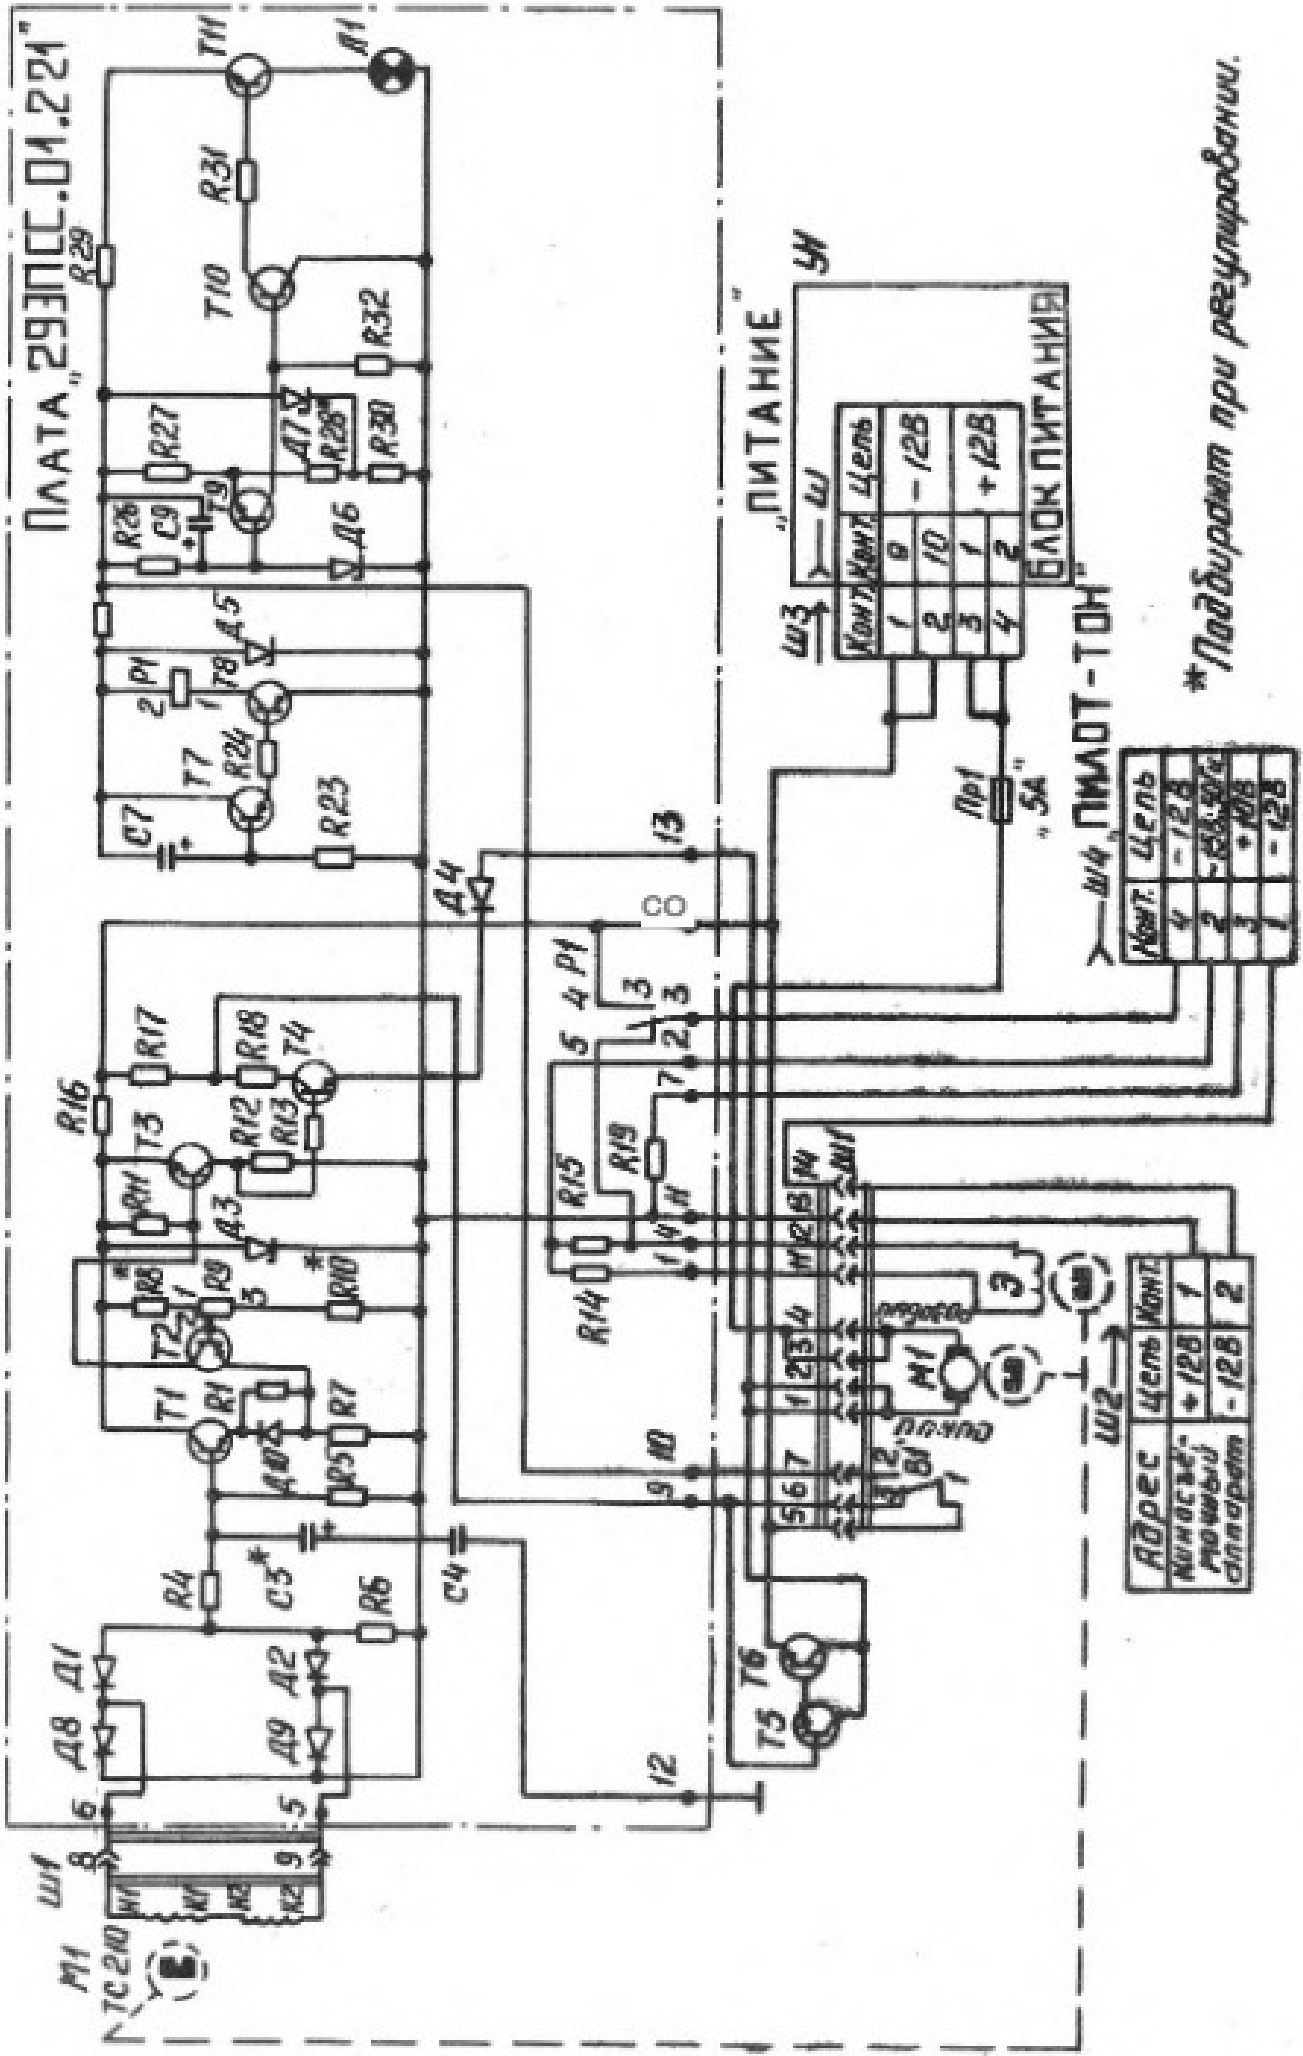

Рис. 4. Схема электрическая принципиальная
4. 5. The principle of operation of the electric drive can be considered according to the scheme shown in Fig. 4.
6. 2. If it is necessary to increase the distance between the camera and the power supply, instead of the power cable, connect the extension cable (Fig. 4), on which there is a trigger button for remote activation of the electric drive unit.
elements to the diagram (fig. 4)